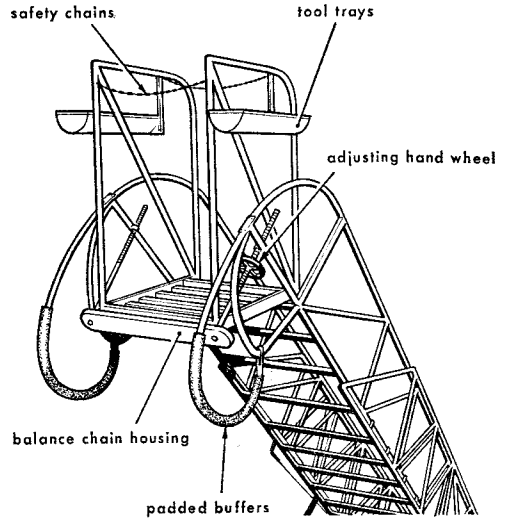

Fig 6 Working platform
16. **Work platform.** A work platform that is large enough for one person is mounted at the top of the upper ladder section. It is provided with an adjustment to level the platform at different ladder angles. The platform level is adjusted by hand-wheels (Fig 6) that are coupled together to ensure equal movement of each side of the platform. Handrails and safety chains protect the user from falling.